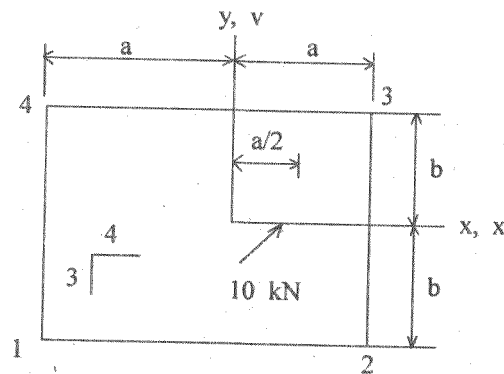

Fig. 4
14. Determine the nodal load vector for the point load acting on a  $Q_4$  element as shown in Fig. 4.